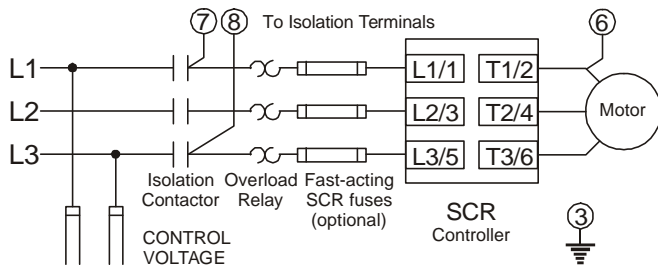

Fig. 5 Solid State Starter with Isolation Contactor – MotoSafe Connection
D.C. Motors: same as A.C. motors with solid state starters (Fig. 5).